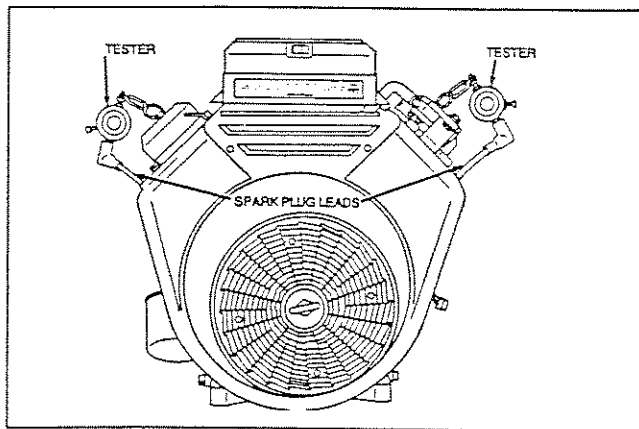

Figure 11. Checking Ignition Spark
1. Remove spark plug leads from the spark plugs (Figure 11).